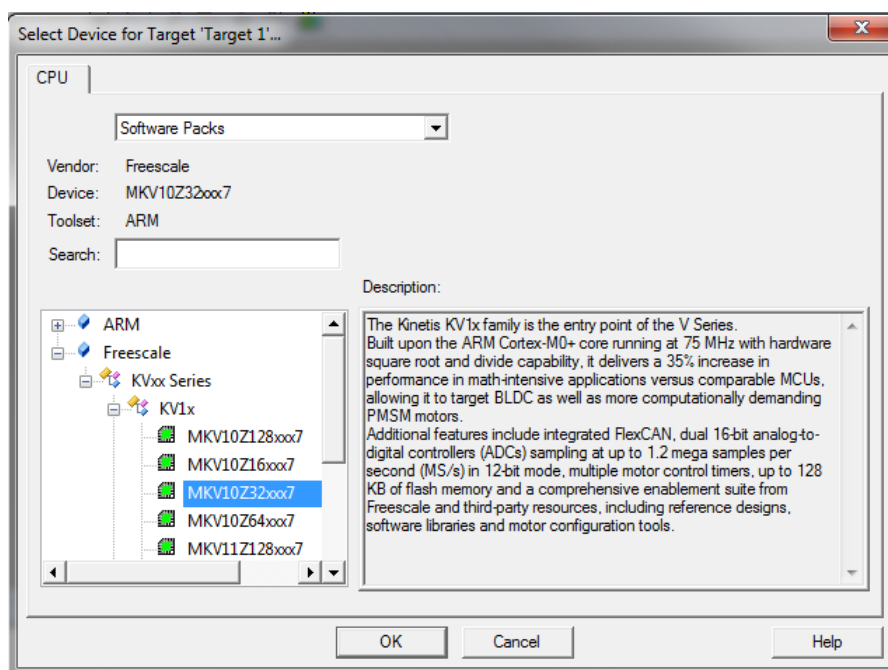

Figure 1-19. Select Device dialog
7. Click the MKV10Z32xxx7 node, and then click OK. See Figure 1-19.